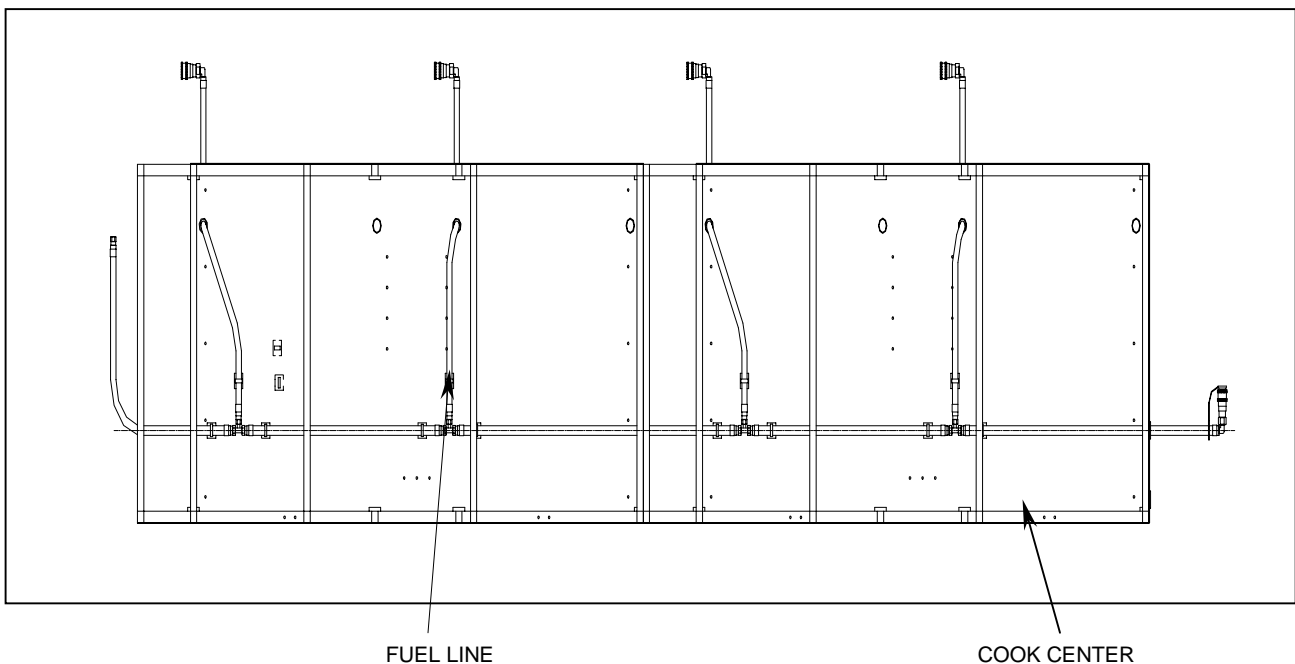

Figure 1. Cook Center Fuel Lines.
**Fuel Line:** If the fuel line is inoperable because of a damaged connector or a cut or hole in the hose, replace the entire section of fuel line assembly by disconnecting the hose assembly and installing a replacement. See Figure 1. Remove and replace the tie-wraps as required.